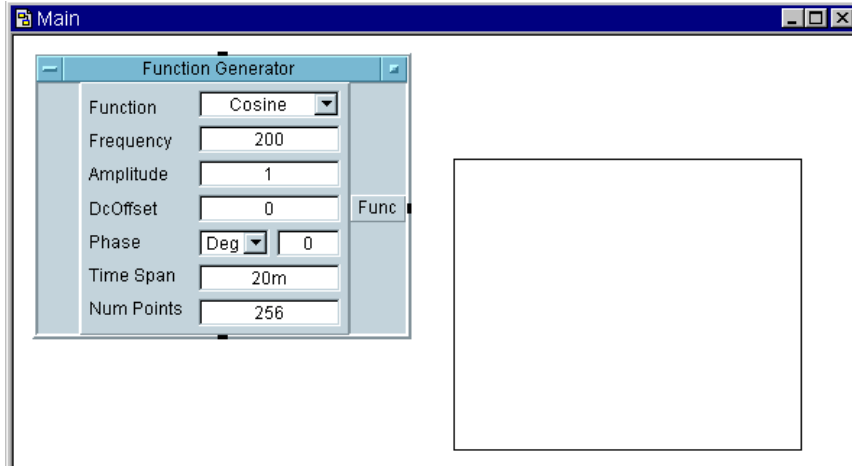

Figure 1-9. Moving an Object
2. Move the outline to the new location while continuing to hold the mouse button down, as shown in Figure 1-9. Release the mouse button, and the object moves to the new location.